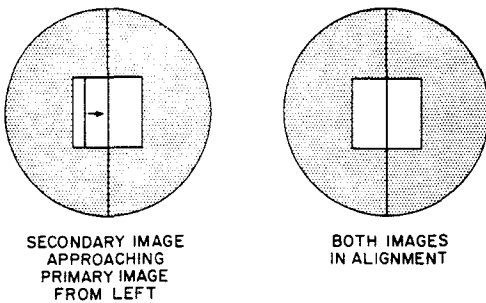

Fig. 2—Aligning Range Finder Image
2.03 Rotate the dial to infinity (∞) mark. Hold the instrument so that the two windows face toward the object to be measured. View the object through the eyepiece, where two images will be seen in the square center portion of the eyepiece (Fig. 2). Slowly rotate the dial clockwise until the two images are in alignment. If the dial is turned too far clockwise, turn the dial counterclockwise past the point where the images are coincident, and again turn the dial slowly clockwise until the two images are in alignment. Following this procedure of approaching coincidence of the images from the left (clockwise) each time will avoid errors in reading that may be encountered from any backlash within the Range Finder.